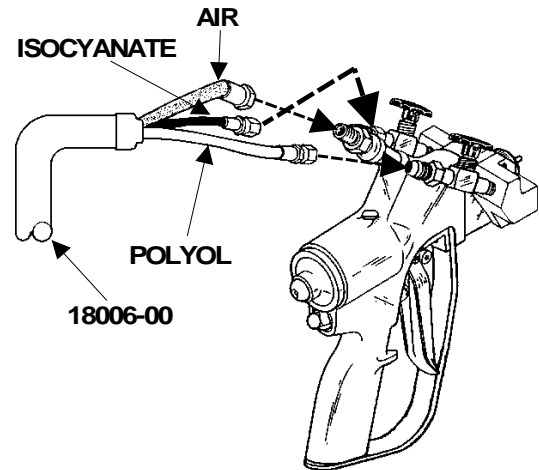

Fig. 9
8. Attach hose fittings at other end of Whip Hose to the Gun. (see Fig. 9)